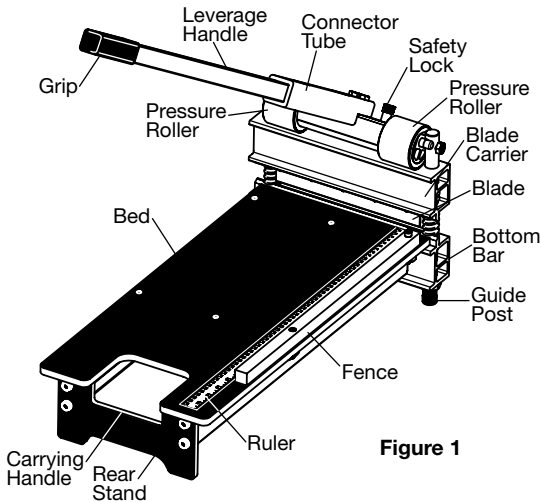

Figure 1
**CAUTION:** Tool is heavy! Users with adequate strength should move the cutter with proper lifting technique and constant awareness of the sharp blade. Be careful not to drop the machine on feet or other body parts. Carry the cutter by its carrying handle (Figure 1). Do not carry the cutter by the leverage handle, the blade carrier, or bottom bar. Keep hands away from the blade!
Carry the cutter by its carrying handle (Figure 1). Do not carry the cutter using its leverage handle, blade carrier, or bottom bar. Keep hands away from the blade, blade carrier, and pressure rollers at all times.